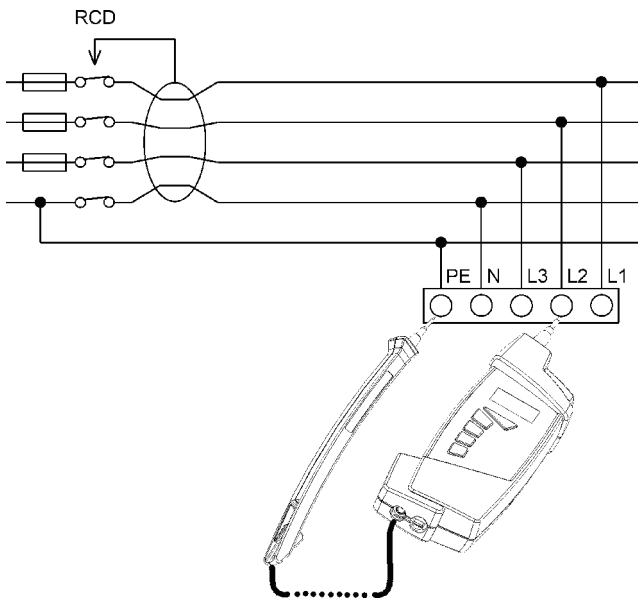

Figure 3.13: Connection Example
- ⇨ Connect the instrument to L and PE downstream from the RCD as shown in figure 3.13.
- ⇨ Connect the instrument to L and PE downstream from the RCD as shown in figure 3.13 section "Connection Example".